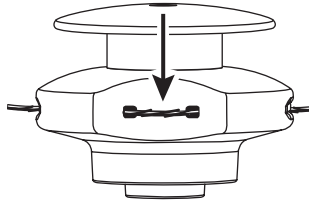

Fig. 23
5. Push the trimmer line until it lies flat against the cutting head (Fig. 23). Make sure the two lengths of cutting line are of equal length. If they are not, adjust until they are.